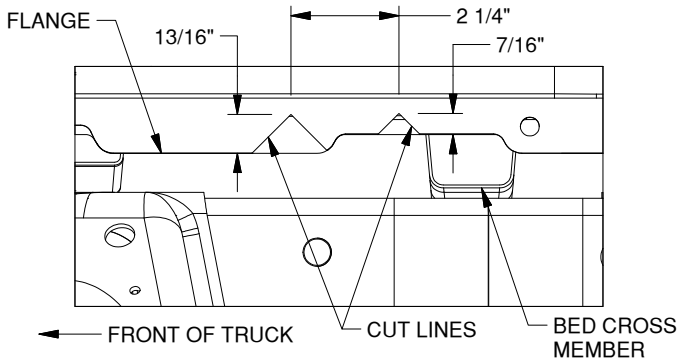

Figure A3: Looking at driver side wheel well.
- 8. Modify bed flange.** Cut two small notches in the bed flange just above the frame in the driver side wheel well, as shown in Figure A3. These notches are required for installing the hitch's rear cross member.